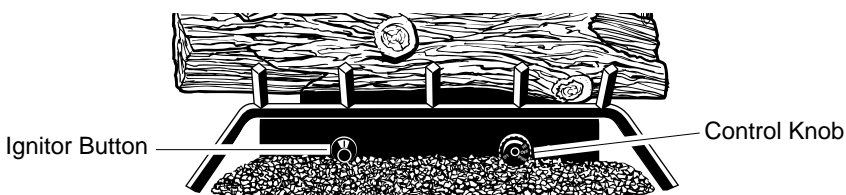

Figure 24 - Control Knob and Ignitor Button Location
4. Wait five (5) minutes to clear out any gas. Then smell for gas, including near the floor. If you smell gas, STOP! Follow "B" in the safety information on page 16. If you don't smell gas, go to the next step.
5. Turn control knob counterclockwise  to the PILOT position. Press in control knob for five (5) seconds (see Figure 24, page 16).